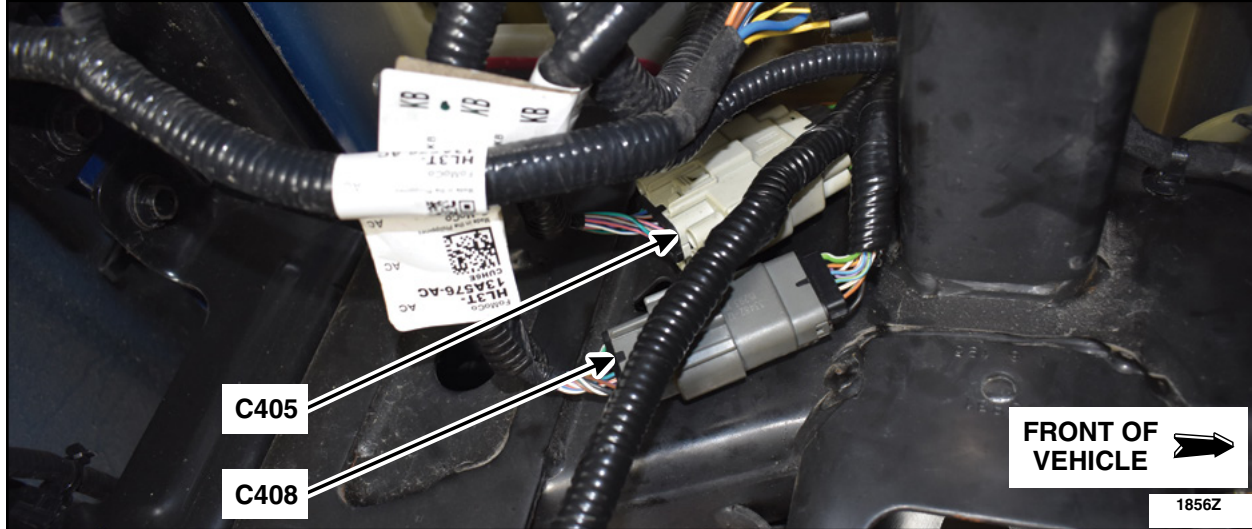

FIGURE 80
27. Connect inline connector C405 and C408. See Figure 80.